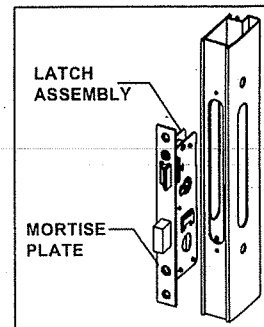

FIGURE 4
C. Insert latch assembly into end of door panel as shown in Fig. 4. **DO NOT** fasten at this time, fastening will be completed in **Step 2G**.